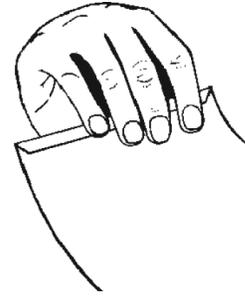

Figure 13
3. Cut out the transition cone from the Transition Cone and Fin Pattern Sheet. Crease the transition cone along the dotted line (Figure 13).